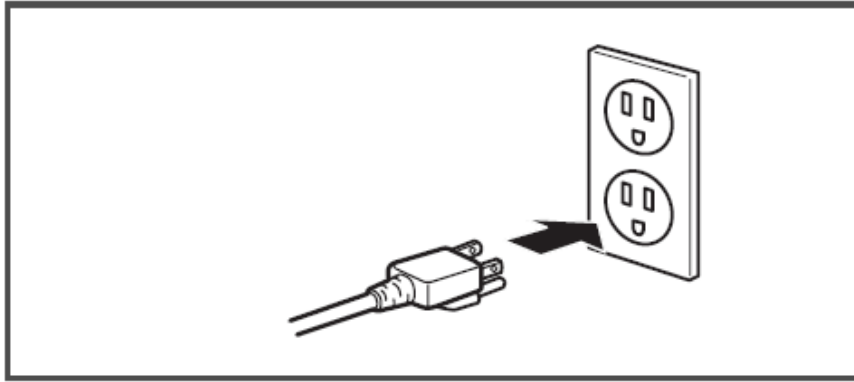

Figure 25
6. Insert the power cable plug into the outlet. Be sure to insert it correctly. See Figure 25.